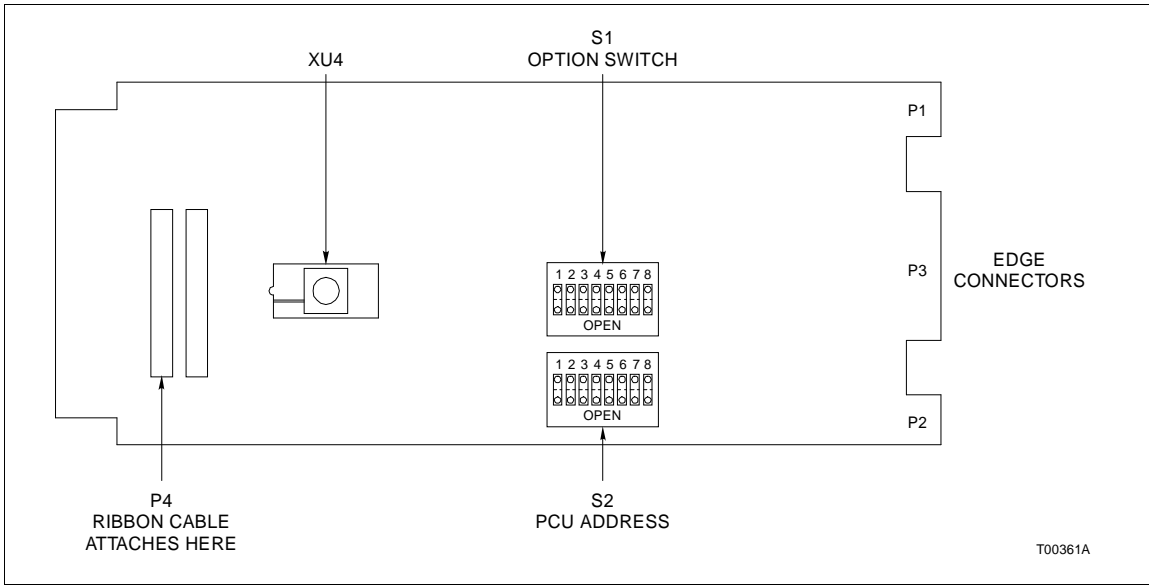

Figure 3-1. Loop Interface Module Component Locations
the Option Dipswitch and S2 - the Address Dipswitch. On the BIM, S1 - the Address/Option dipswitch must be set. Figures 3-1 and 3-2 show the location of these switches.
3. After setting the switches on both modules, connect the Bailey supplied ribbon cable from the P4 connector on the LIM to the P4 connector on the BIM (see Figure 3-1). You are ready to install the modules. The LIM/BIM are inserted into adjacent guide rails of the Module Mounting Unit (MMU).